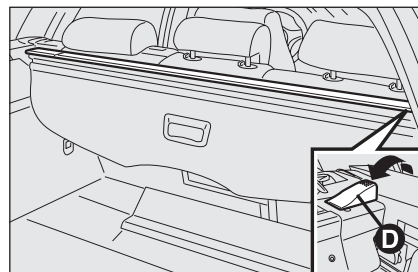

fig. 22
- ☐ keep the lever **D-fig. 22** up and fit the net into the proper seat on the right side;